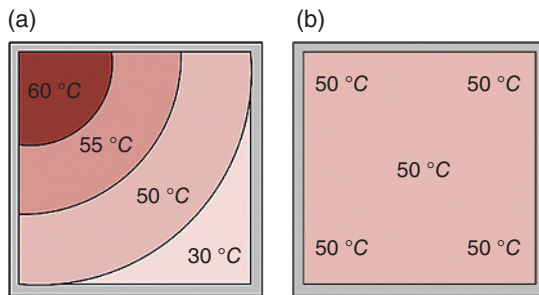

Figure 1.31 Graphical illustrations of (a) a system which is not in thermal equilibrium and (b) a system which has reached thermal equilibrium.
- Thermal equilibrium is a state where the same temperature is reached throughout the entire system. Figure 1.31 shows two cases. The first one (Figure 1.31a) shows no thermal equilibrium while the second (Figure 1.31b) shows thermal equilibrium within the system at the same, uniform temperature. Note that both system and its surroundings may also reach thermal equilibrium if they have the equivalent temperatures.